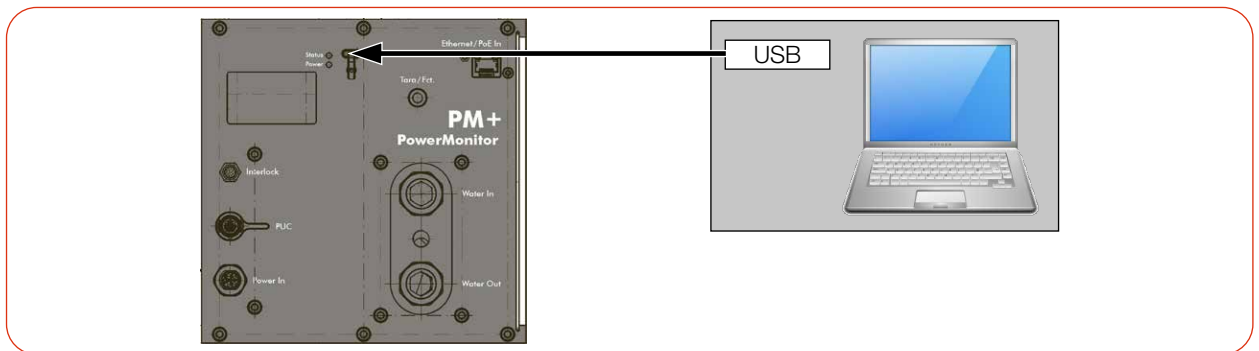

Fig. 7.3: Power supply via USB, data transfer via USB
- ▶ Connect the cable according to Fig. 7.3 on page 27.